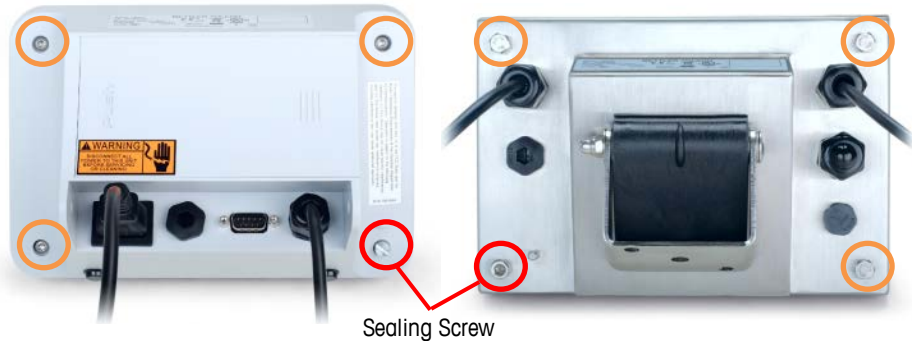

Figure A-2: Opening the Enclosures – IND231 (left) and IND236 (right)
- For IND236, use a 10mm socket wrench to loosen three of the screws. Use a 5mm Allen Head insert screwdriver to loosen the sealing screw, indicated in Figure A-2. Note that the screws are captive, and remain attached to the rear cover of the IND236.